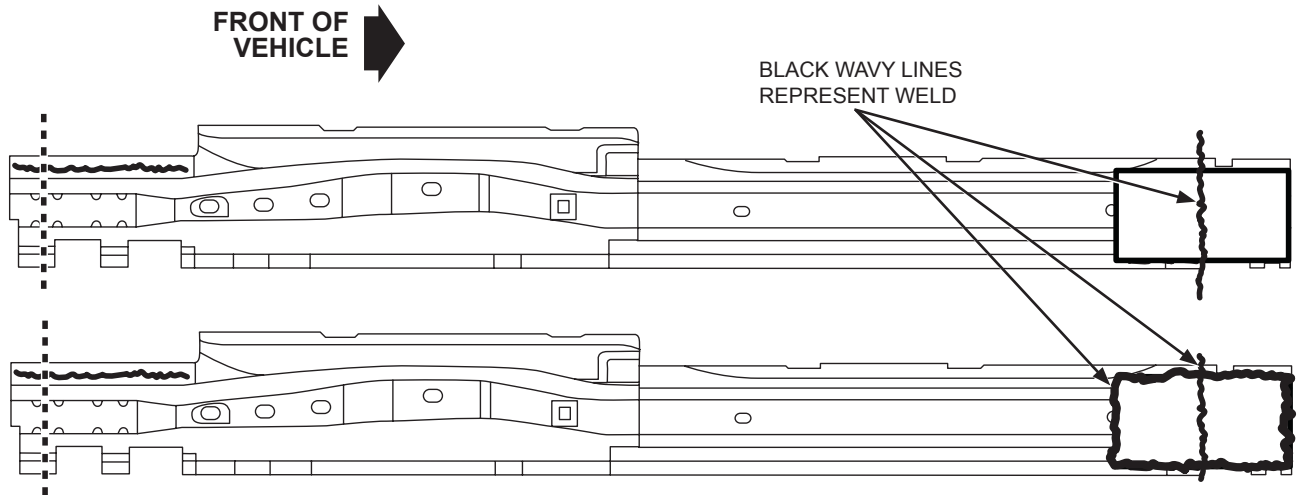

FIGURE 3
- **Option 1** - Insert/backer may be installed using eight (8) blind rivets (W702512-S900C) and adhesive. (Refer to Figure 3).
- Make cut(s) as determined, then make a 9" long insert backer. (Refer to Figure 3).
- **Option 2** - Insert/backer may be welded into section after butt welding of cross member sections. Dress MIG butt weld and fully weld insert/backer into position. (Refer to Figure 3).